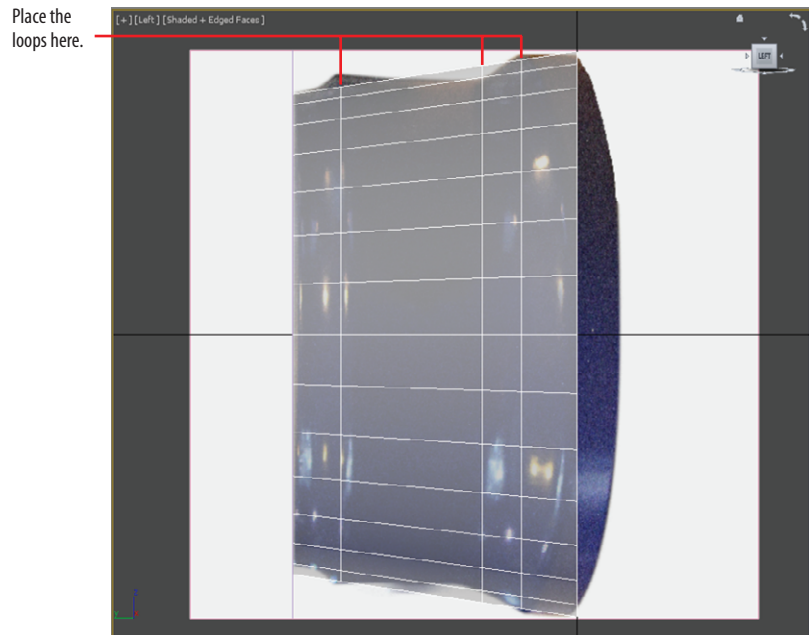

FIGURE 2.7 Using the SwiftLoop tool, place three loops as shown.
9. Turn on Edged Faces (F4) and then view the cylinder in the Left viewport; place the loops at the positions shown in Figure 2.7.